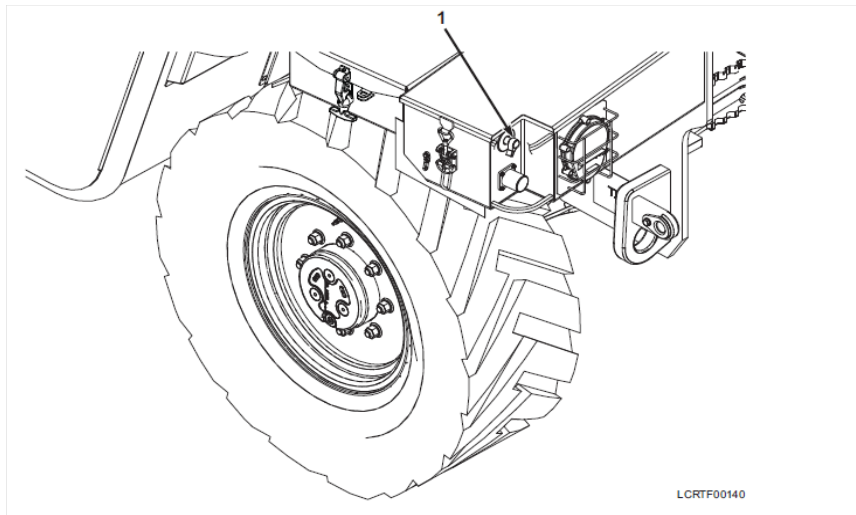

Figure 3-57
- a. Move battery disconnect switch to on position (see Figure 3-57, Item 1).